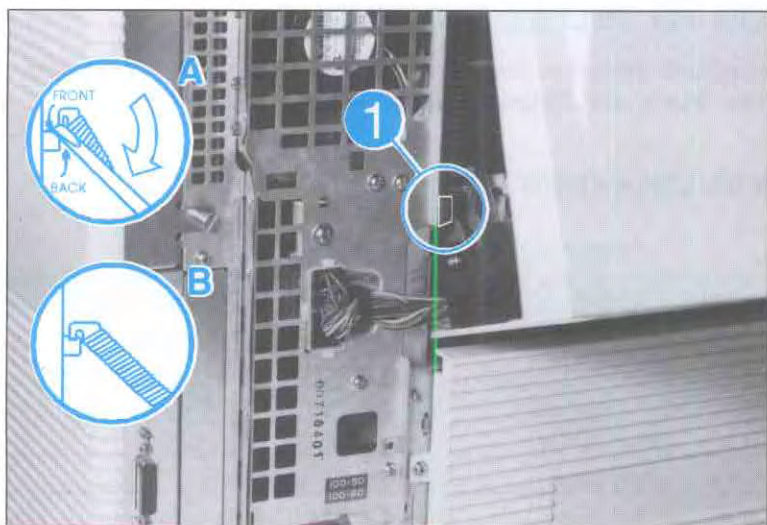

Figure 7-7. Defeating SW101 Actuator.
- Open the Top Cover 45°, and, standing behind the printer, engage the fuser safety switch (SW101) actuator at the rear of the printer, next to the right side of the Rear Top Cover. This actuator is hard to find. Look for the square, bright silver tab next to the right hinge spring (see Figure 7-7).